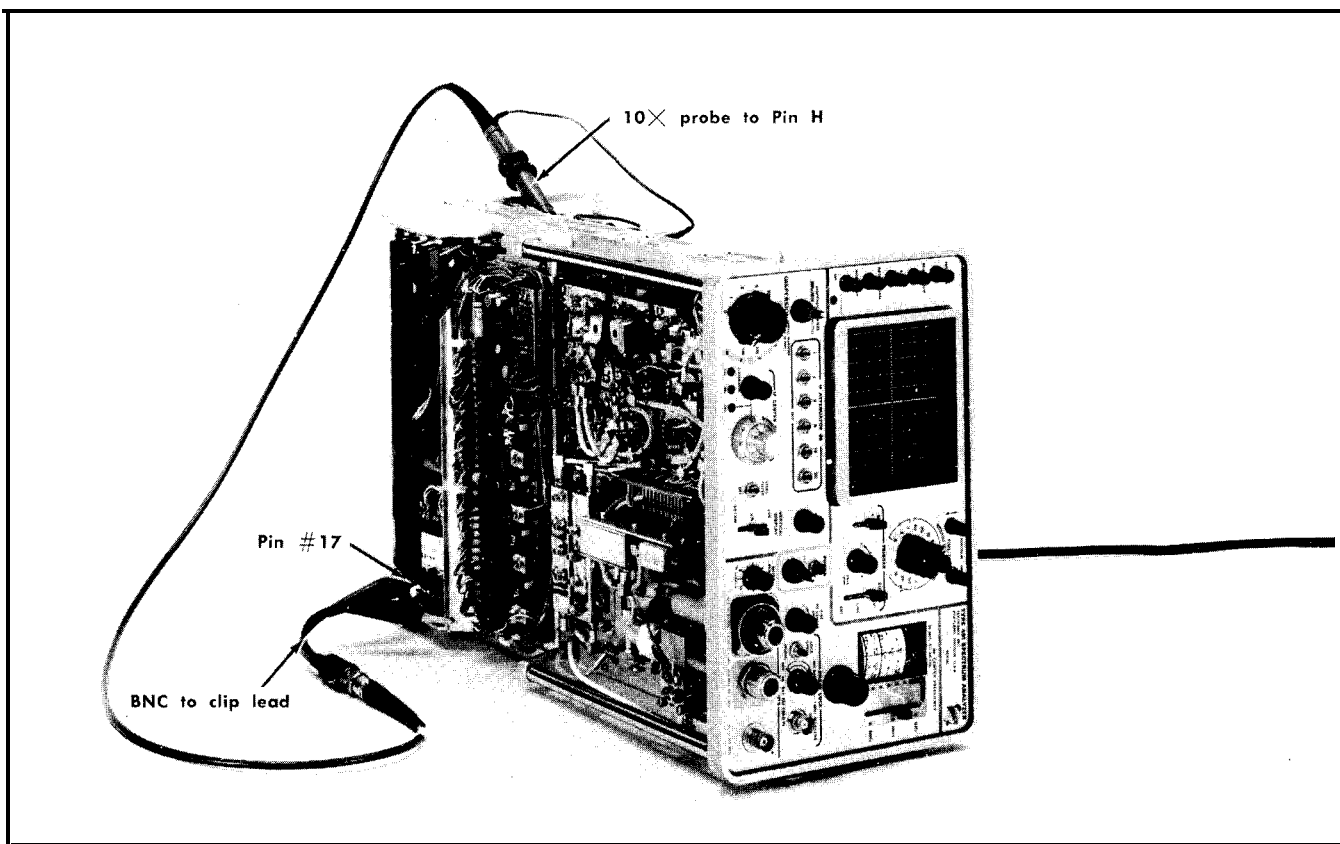

Fig. 6-13. Setup to check LINE triggering operation.
- Equipment setup is shown in Fig. 6-13.
- Turn the POWER switch OFF, then connect a 10x test probe and a BNC to clip lead adapter between pin H of the Vertical Amplifier circuit board and pin 17 of the power transformer. See Fig. 6-13.